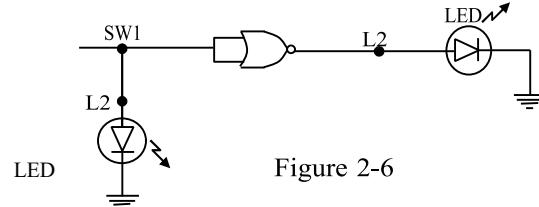

Figure 2-6
21. Connect one of the four gates in the IC as shown in Figure 2-6. The input will come from data switch SW1. You will monitor the input and output states with the L1 and L2 LED indications and your DC voltmeter.